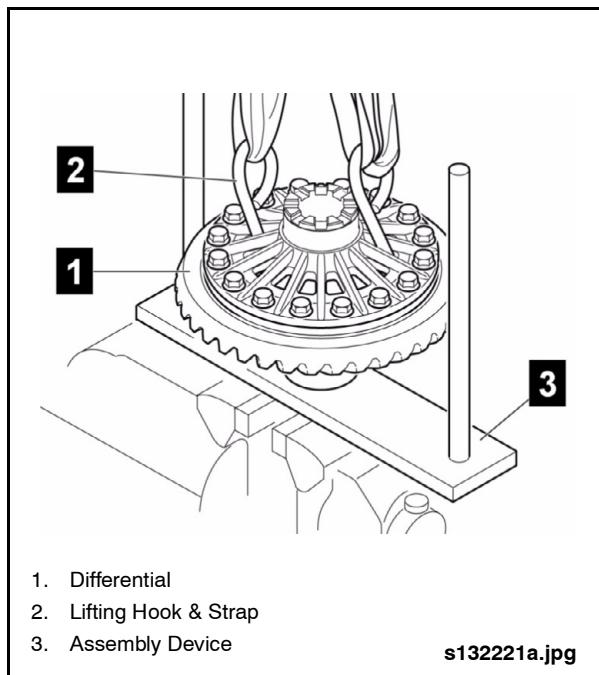

Fig. 2-58: Positioning Differential on Assembly Device
3. Attach Hooks and Lifting Strap (Items 84 and 62 from Special Tools List) to differential and hoist into position onto assembly device. See "Fig. 2-58: Positioning Differential on Assembly Device" on page 50.